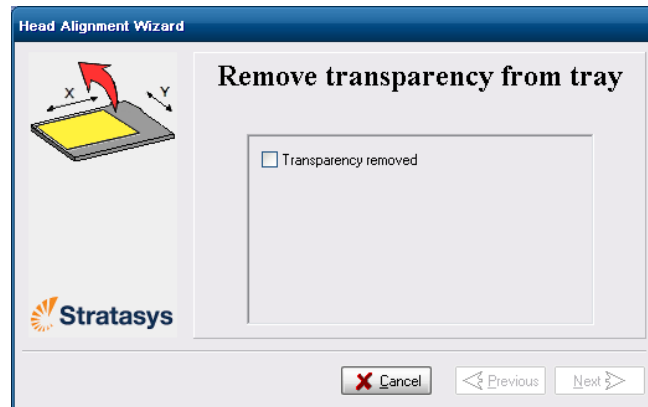

Figure 6-52: Head Alignment Wizard—steps 8–10
10. In the wizard screen shown in figure 6-52, select the *Transparency removed* check box, and click **Next**.